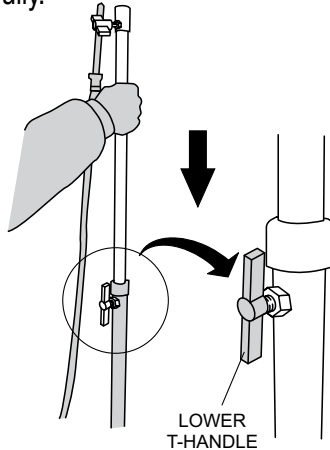

Figure 16. Lowering the Mast
1. Loosen the lower T-handle by turning handle counterclockwise (Figure 16). Push down on mast until mast is fully inserted into mast housing. Tighten T-handle fully.